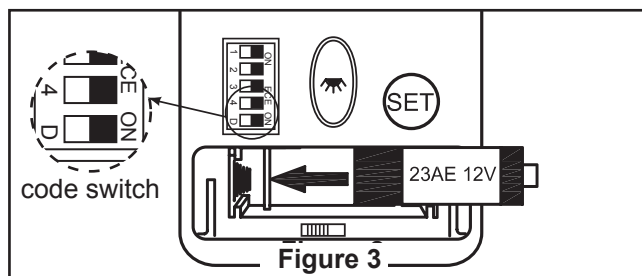

Figure 3
2. Over 80W protection: When the receiver detects motor power consumption which is greater than 80W, the receiver power will be stopped and operation will immediately discontinue. Turn the receiver power on after 5 seconds. (Figure 3)